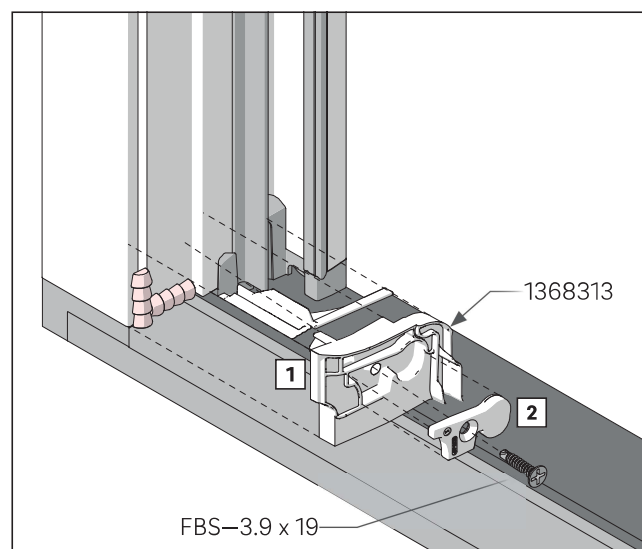

Fig. 10: Installation of the wind stop 1368313
- Next, the two-part wind stop 1368313 is installed in the frame rebate (fig. 10).
- Seal the main part of the wind stop **1** to the threshold toward the bottom with silicone and then position it in the frame rebate. Press the secondary part **2** into the recess of the main part **1** of the wind stop and screw it in place using the enclosed 3.9 x 19 window construction screw (fig. 10).